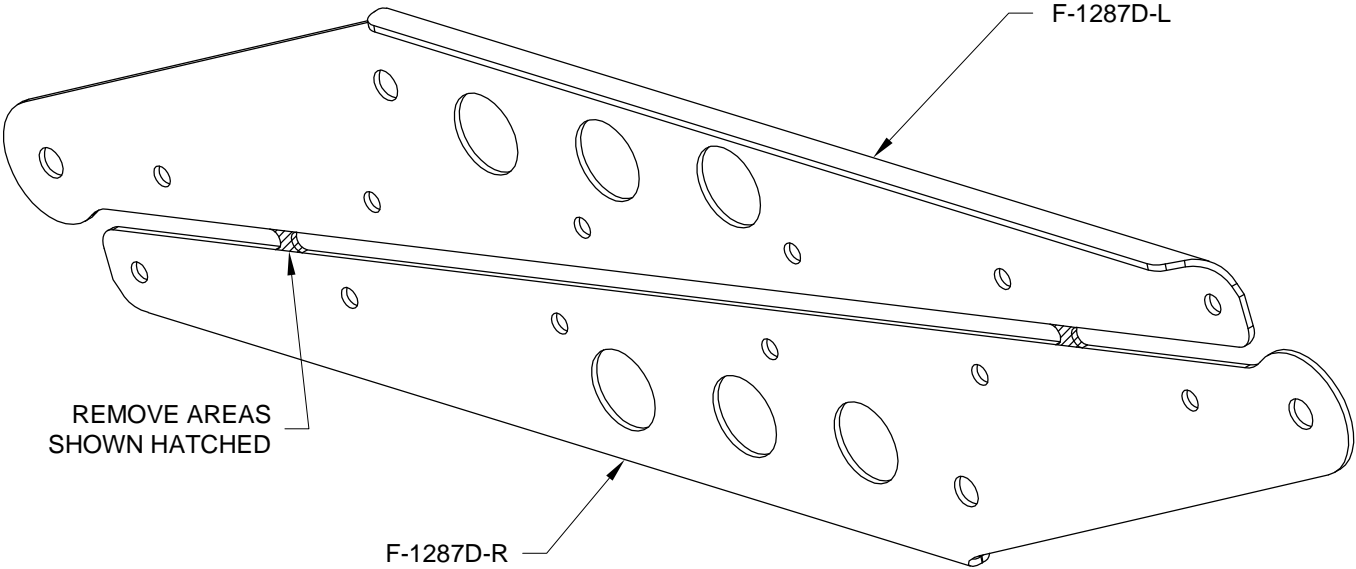

FIGURE 2:
Step 2: Mark then separate the F-1287D-L & -R Clevis Plates by removing the material called out in Figure 2.